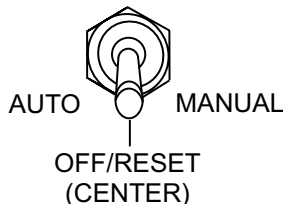

Figure 50. Auto Off/Reset Manual Switch (Off/Reset Position)
3. Place the **Auto Off/Reset Manual Switch** (Figure 50) in the **OFF/RESET** position.